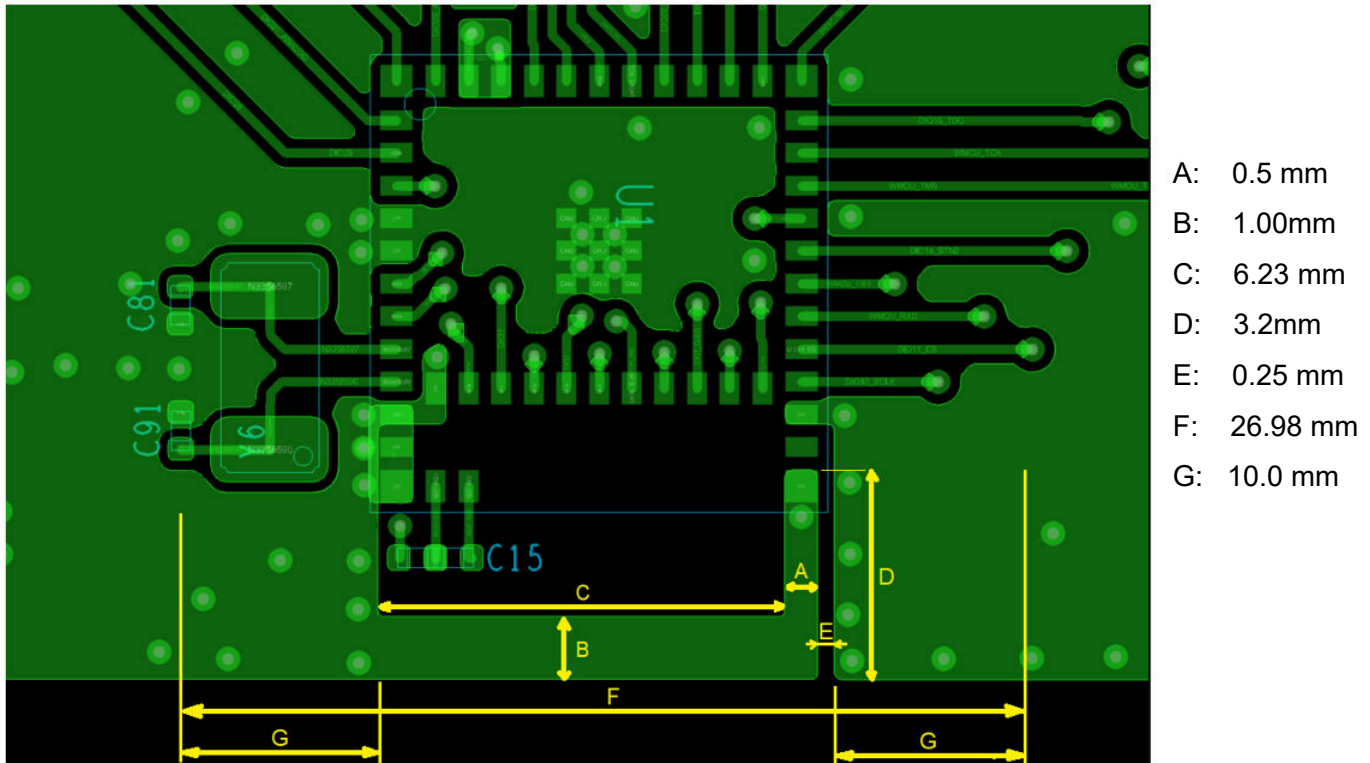

Figure 10-4. Module Layout Guidelines
It is critical that the RF section be laid out correctly to ensure optimal module performance. A poor layout can cause low-output power and sensitivity degradation. Figure 10-4 shows the RF placement and routing of the CC2651R3SIPA module with the 2.4-GHz integrated antenna.
- Dimensions A thru G in Figure 10-4 must be strictly adhered to for optimal RF performance
- The module must have a minimum 10-mm ground plane on either side of the module on all layers as shown with dimension G in Figure 10-4